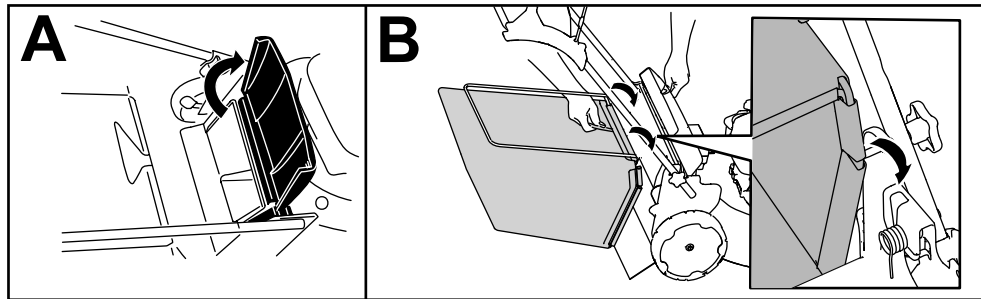

Figure 20
1. Raise and hold up the rear deflector (A of Figure 20).
2. Install the grass bag, ensuring that the pins on the bag rest in the slots on the handle bracket (B of Figure 20).